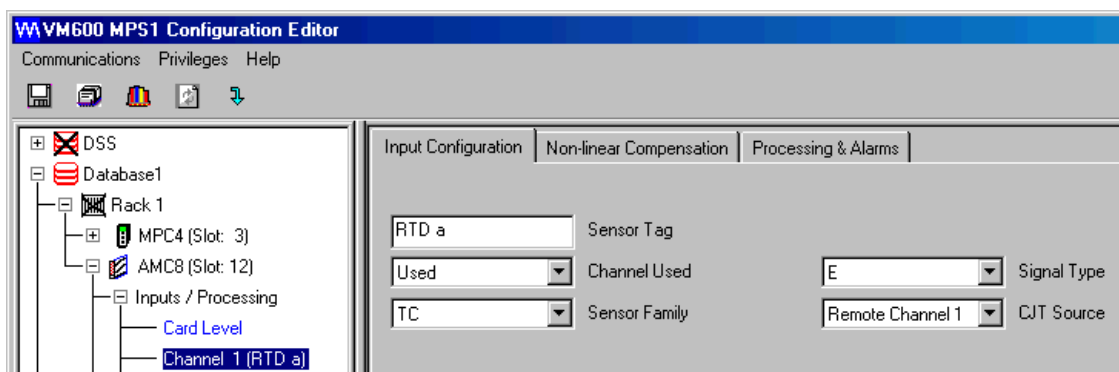

Figure 12-3: Defining Remote Channel 1 as the CJT source
- 3- Select **Remote Channel 1** in the **CJT Source** field, as shown in Figure 12-3